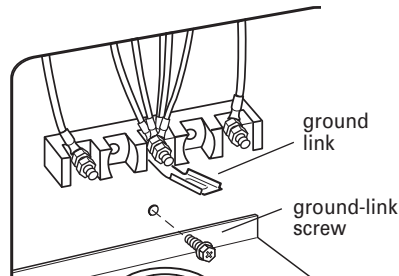

Figure 1
7. Remove the ground-link screw from the range frame. Save the ground-link screw. Bend up the ground link so that it does not contact the range. See Figure 1.